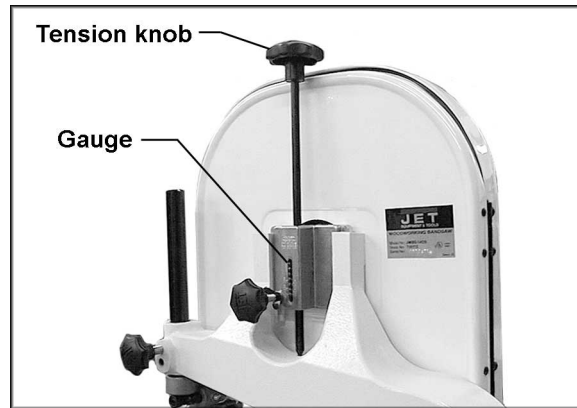

Figure 28
2. Loosen blade tension by turning the tension knob counterclockwise (Figure 28).
2. Turn blade tension knob (Figure 28) clockwise to tension blade. A gauge on the upper wheel slide bracket indicates the approximate tension according to the width of the blade. Initially, set the blade tension to correspond to the blade width as marked on the gauge.